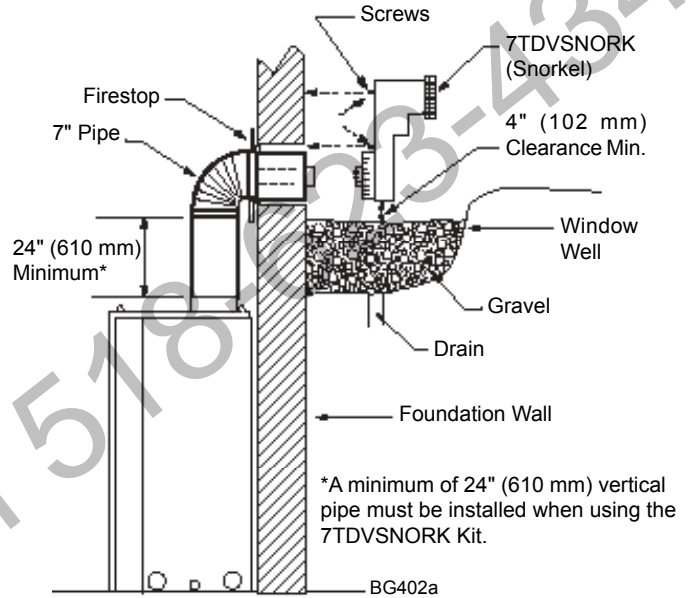

Figure 47 - Below Grade Installation
7. Level the soil so as to maintain a 4" (102 mm) clearance below snorkel. *Figure 47*